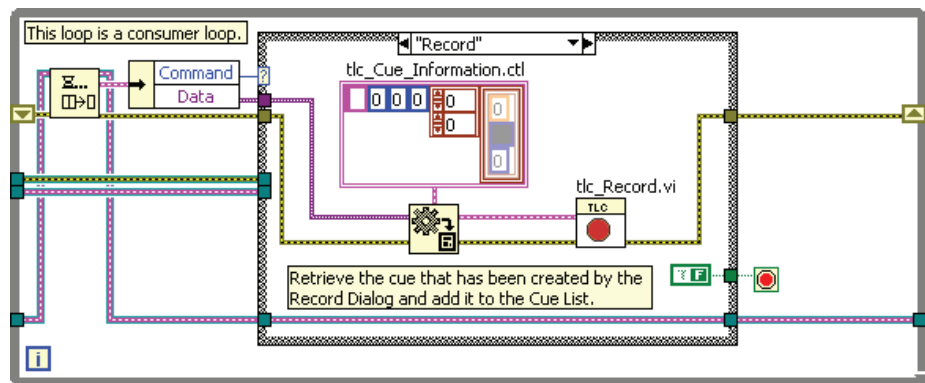

Figure 7-14. Record Case in Consumer Loop
13. Modify the consumer loop to call the Record VI and convert the variant data into data that the Record VI can accept. Figure 7-14 shows the completed Record case in the consumer loop. Use the following items: